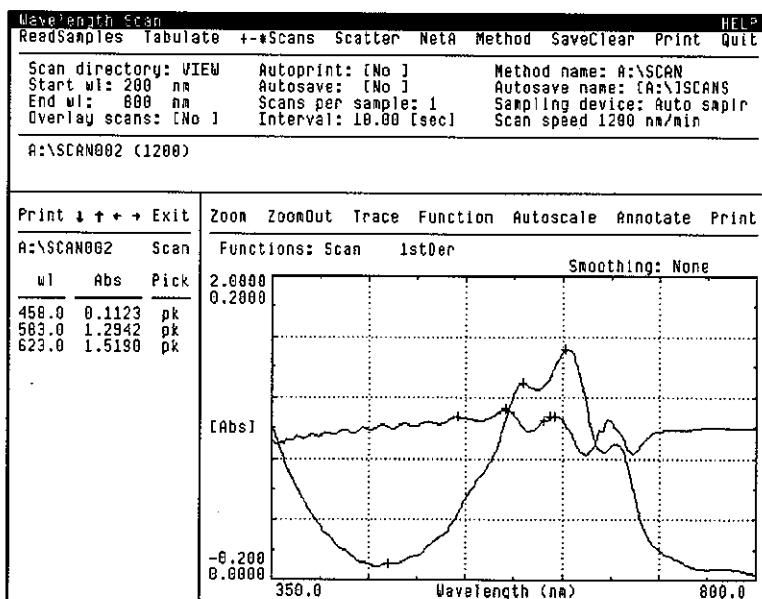

Figure 6-6. Wavelength Scan Window with Multiple Functions
- Example data, plotted with the selections in the Function Selection window (Figure 6-5), are shown in Figure 6-6.